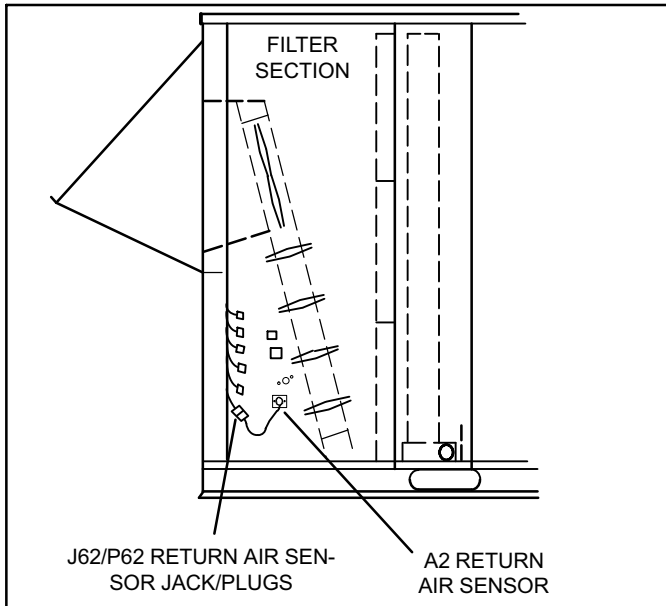

Figure 9. Return Air Sensor
6. Continue to route J62 inside conduit on-top of filter rack toward filter access door and economizer section. See figure 9.
2. Insert return air sensor probe into hole (location shown in figure 9). Secure with screws provided.